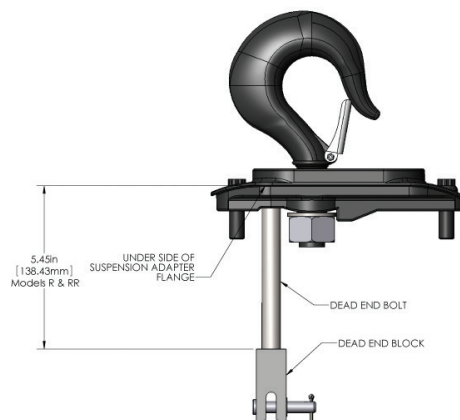

Figure 7. Hook Suspension
Remove the hook suspension, (2) suspension screws, (1) dead end pin, (1) washer, and (1) cotter pin from the packaging. It should be noted that the suspension includes a dead end bolt and block for supporting the dead end of the load chain as shown in Figure 7. If not previously assembled, assemble the dead end bolt and block through the suspension adapter as shown in Figure 7.
make sure it has not been disturbed from its factory setting. The distance from the top of the pin hole to the bottom of the hoist should not exceed 1/4" (6.35mm) for Models E, E-2, H, H-2 and 7/16" (11.11mm) for Models R, R-2, RR, RR-2. If the distance is not correct, adjust the position of the dead end block to obtain the proper distance (see fig. 7)